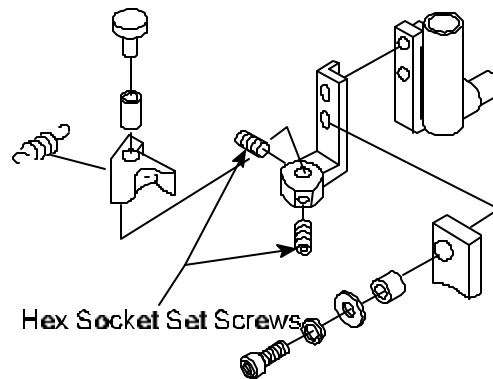

Figure 7
18. **Using** a 2 mm Allen Wrench, **tighten** 2 hex socket screws to secure Needle Bar Driver on Needle Bar Driver Fixing Base. See *Figure 7*.